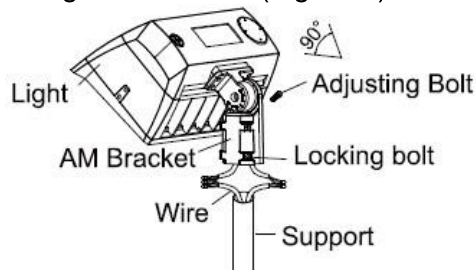

Figure 7
- Step 1. Connect the wires correctly and run the wire into the pole. Fasten the locking bolts between the slip fitter and the pole (Figure 7).
NOTE: Adjustable angle is 0~+/-90° (Figure 7)